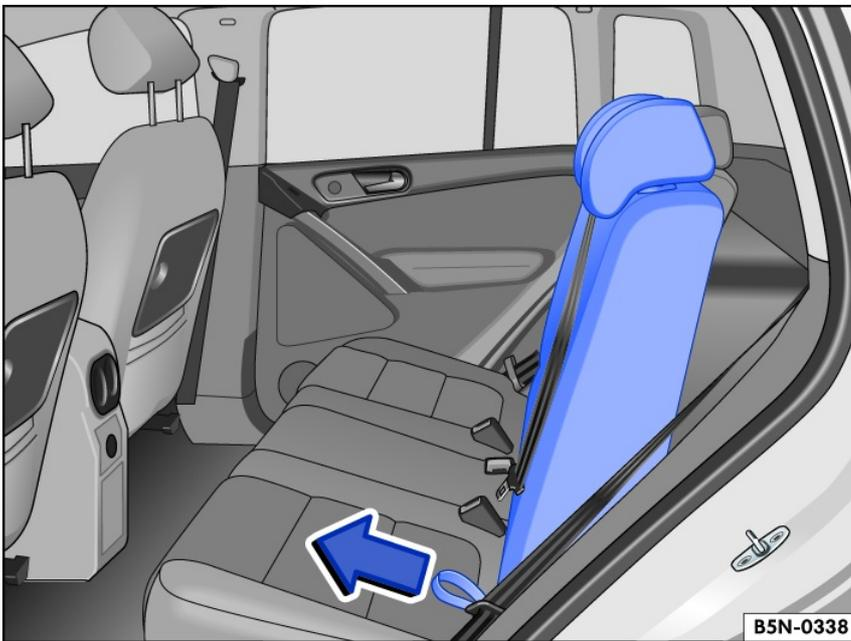

Fig. 82 Rear bench seat: Folding the rear seat backrest up and down.
- Pull the loop *fig. 82* forward in the direction of the arrow while supporting the backrest, and slowly fold the rear seat backrest forward → ⚠.